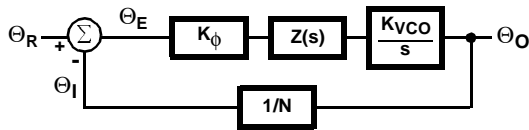
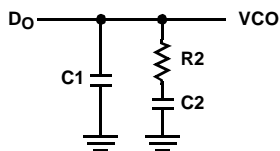

FIGURE 22. PLL LINEAR MODEL
FIGURE 23. PASSIVE LOOP FILTER
A linear control system model of the phase feedback for a PLL in the locked state is shown in Figure 22. The open loop gain is the product of the phase comparator gain ($K\phi$), the VCO gain (K_{VCO}/s), and the loop filter gain $Z(s)$ divided by the gain of the feedback counter modulus (N). The passive loop filter configuration used is displayed in Figure 23, while the complex impedance of the filter is given in Equation 2.